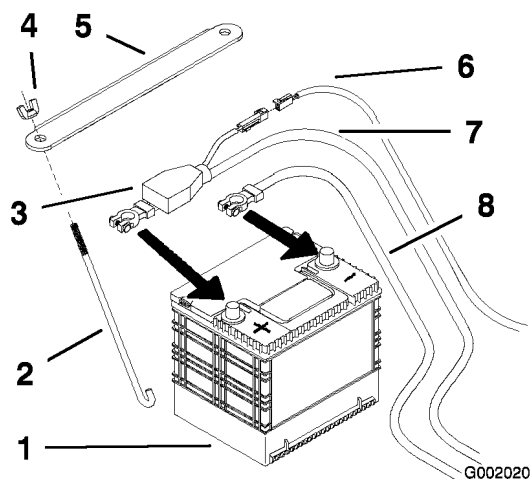

Figure 45
4. First disconnect the negative battery cable from the negative (-) battery terminal (Figure 45).
5. Slide the red terminal boot off the positive (red) battery terminal. Then remove the positive (red) battery cable (Figure 45).
1. Position battery in the tray with the terminal posts opposite from the hydraulic tank (Figure 45).
4. Secure the cables with 2 bolts (1/4 x 3/4 inch), 2 washers (1/4 inch), and 2 locknuts (1/4 inch) (Figure 45).
6. Secure the battery with J-bolts, hold down clamp, 2 washers (1/4 inch), and 2 wing nuts (1/4 inch) (Figure 45).